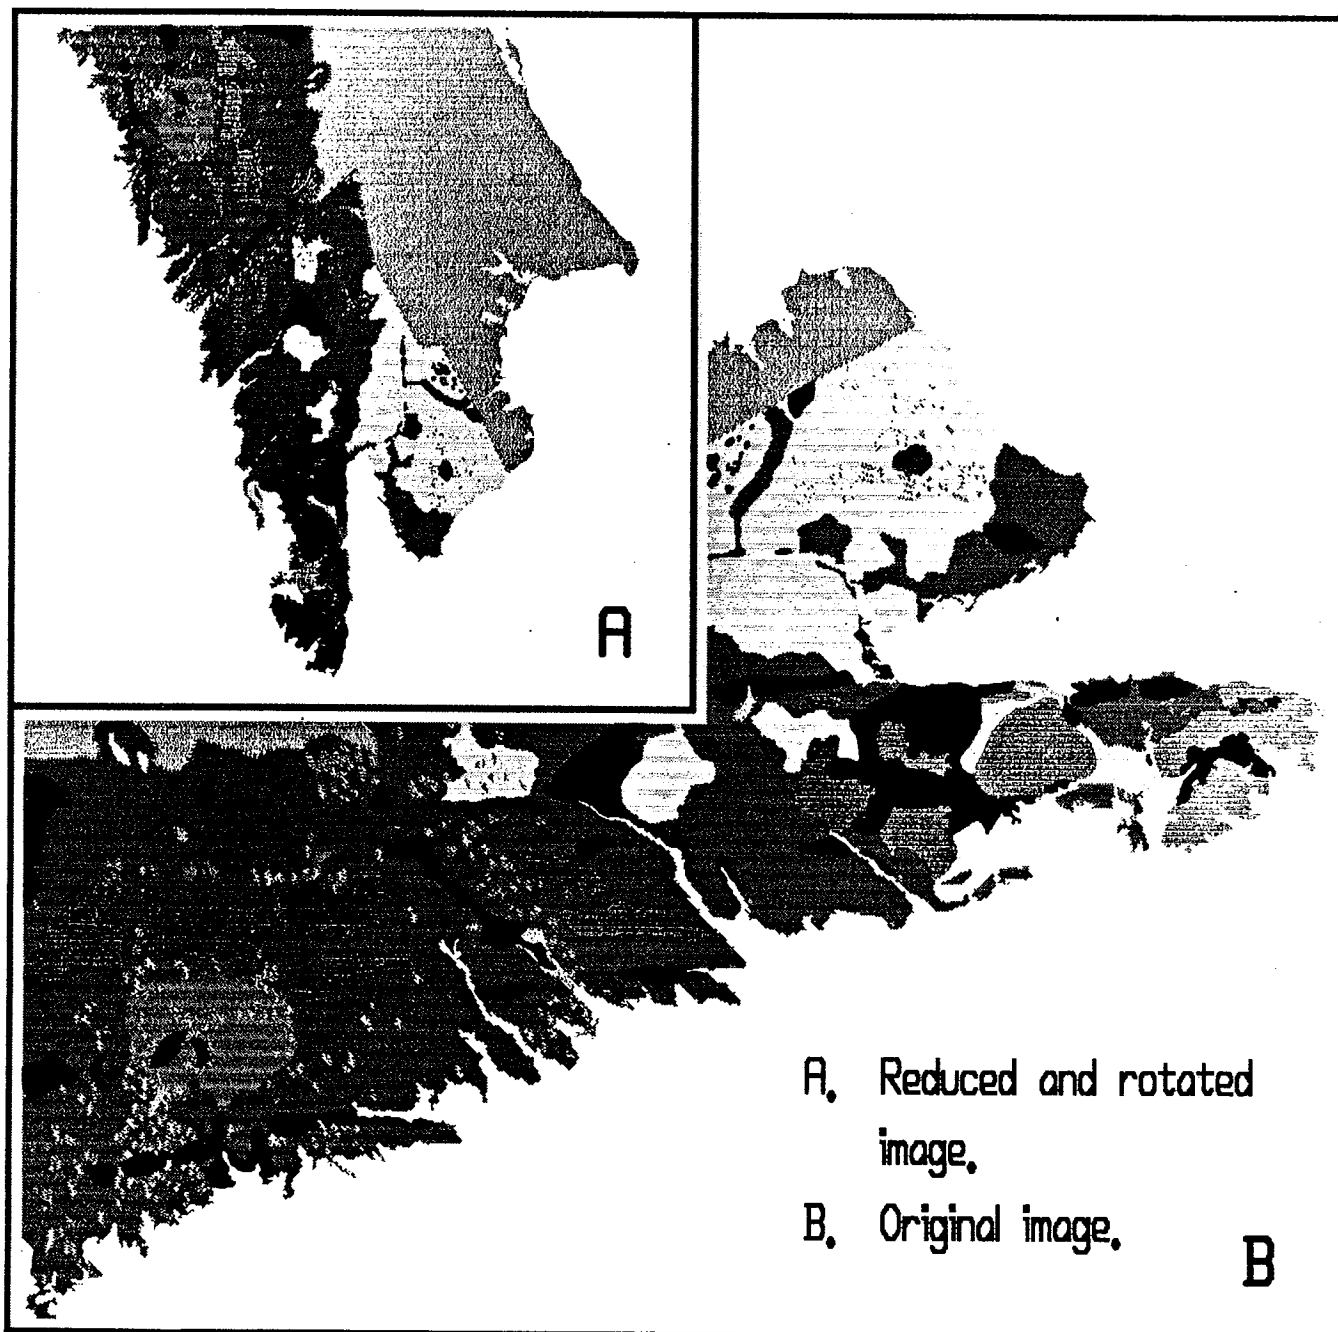

FIGURE 3
4. Black and white reproduction of a colour image showing polygon boundaries of the same map in Figure 3. The simplified vector file used to create this image was created as an option in VEC2RAS. Selected boundaries, such as 'coastline' or 'all granite contacts', can be plotted using this file which uses integer pixel coordinates and is therefore very compact. Images with solid themes and selected boundaries provide an effective means to compare two maps, for example bedrock geology with a catchment basin geochemical map.